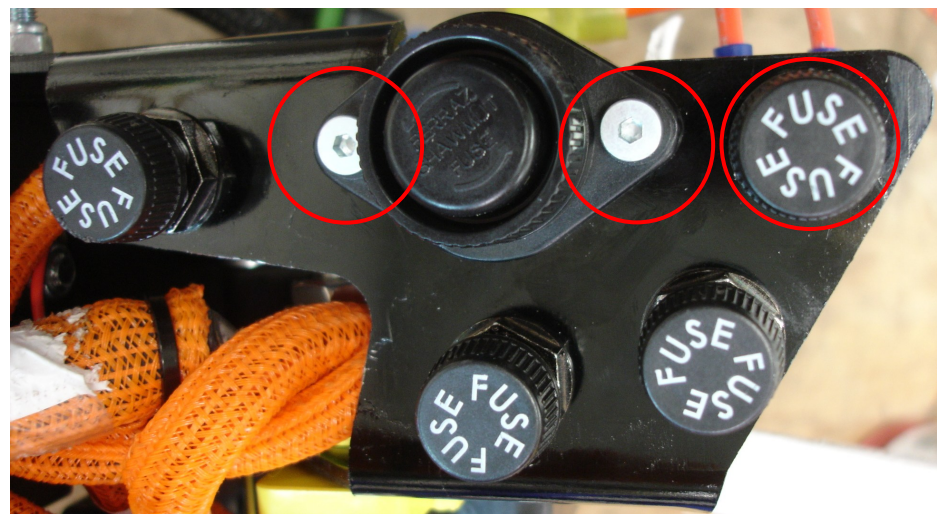

Figure 52
36. Mount quick charge fuse with (x2) M4x10 (ITEM 32). Ensure orientation as in FIGURE 52 and 53. This fuse is already attached to the harness (ITEM 9).
37. Attach HARN X MW CHG INLET (ITEM 33) to remaining fuse hole. See FIGURE 52.